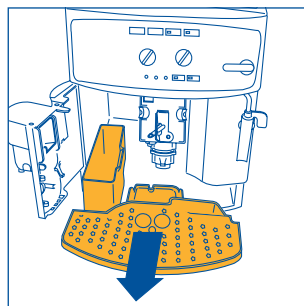

Fig. 16
NOTE 7: the machine counts the number of cups of coffee made. Each 14 single cups (or 7 double cups), the  light switches on steady (chap. 12 point 3), warning the user that the grounds container is full and must be emptied and cleaned. Until the grounds container has been cleaned, the light will remain on and the machine cannot deliver coffee. To clean the container, open the service door on the front (pulling the handle, Fig. 15), the  light flashes (see para 12 point 9); remove the drip tray (Fig. 16), empty and clean. Empty and carefully clean the grounds container, making sure to remove all the residues that may be deposited on the bottom. Also dry the any drops of condensate that may have formed inside the machine under the drip tray. **IMPORTANT:** when removing the drip tray, the grounds container **MUST** be emptied, even if it is not completely full. If this is not done, when next making coffee the grounds container may fill over the maximum level and block the machine with lumps of coffee grounds.
- remove the drip tray and the grounds container (Fig. 16) and clean them;